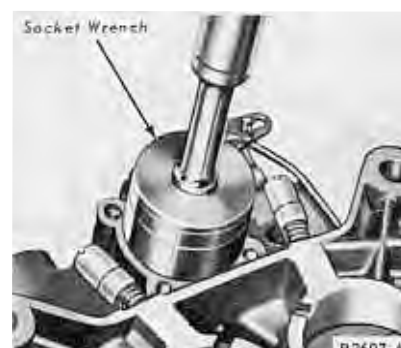

FIG. 24—Power Valve Removal or Installation
8. Invert the main body and remove the power valve cover and gasket. Using a socket wrench or box wrench, remove the power valve and gasket (Fig. 24).
8. Invert the main body. Using a socket wrench or box wrench, install the power valve and new gasket (Fig. 24). Tighten the power valve securely. Install the cover and new gasket.